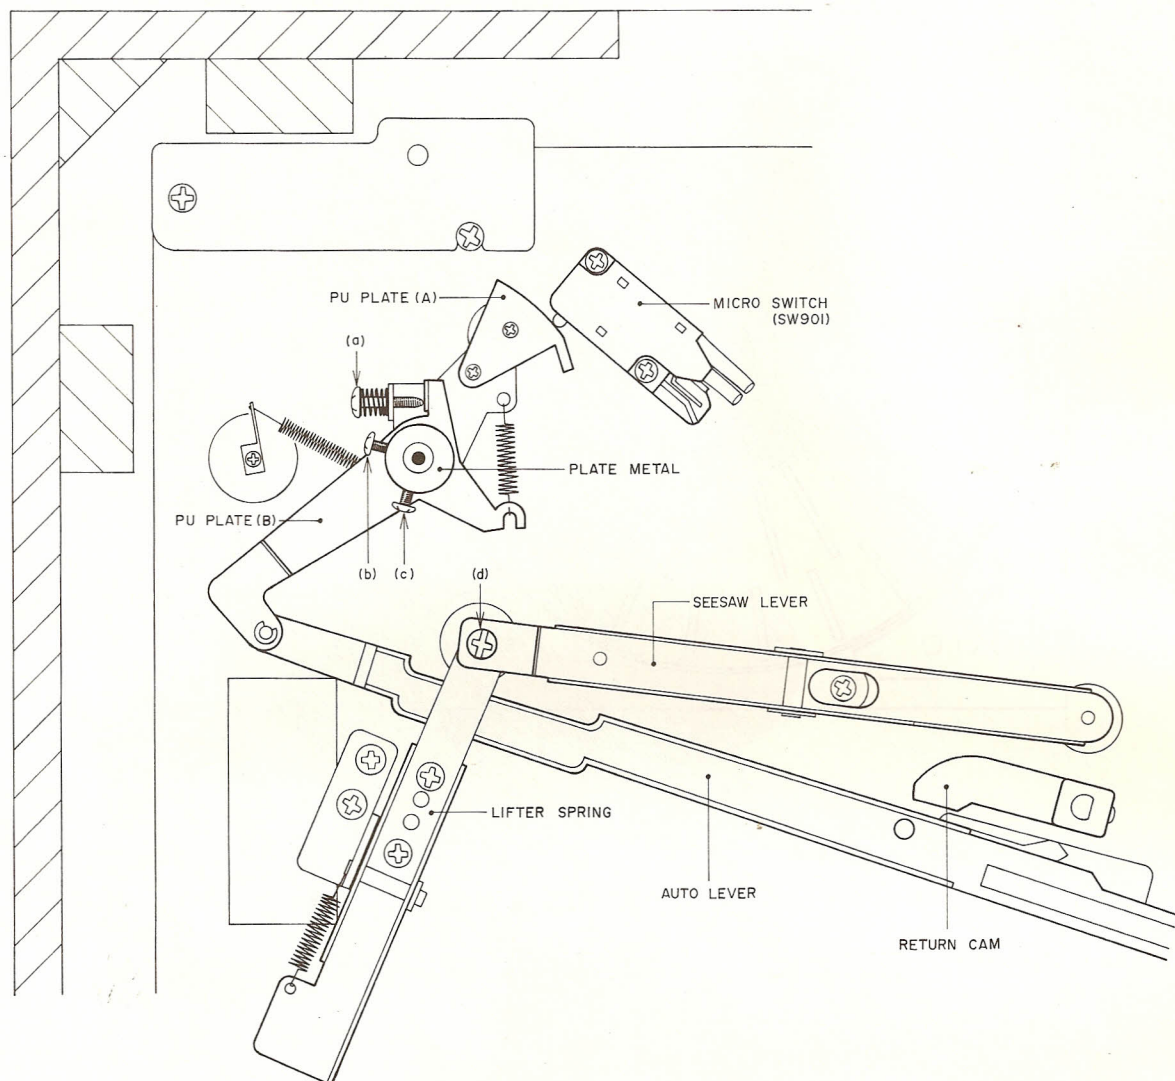
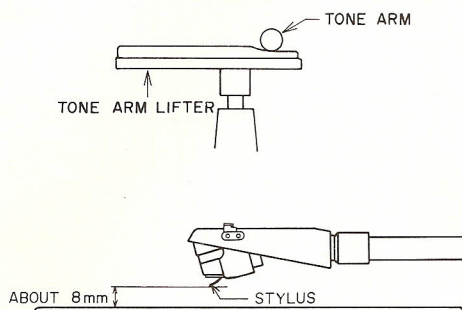
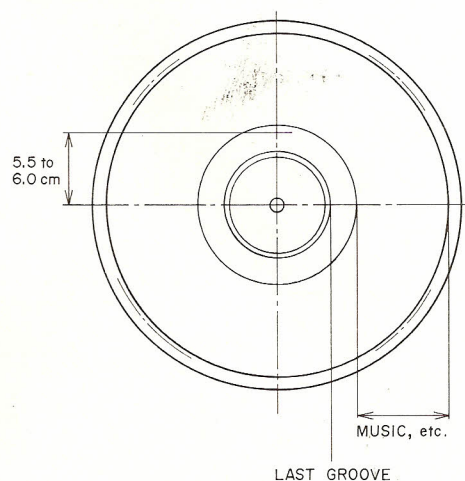

Fig. 12
Fig. 14
Fig. 15
4. PU PLATE ADJUSTMENT (Refer to Fig. 12)
(Refer to Fig. 12 and Fig. 14)
- 1) Adjust the screw (d) (see Fig. 12) until the tone arm fits to the tone arm lifter as shown in Fig. 14.
ADJUSTMENT (Refer to Fig. 12 and Fig. 15)
- 1) Adjust the screw (d) (see Fig. 12) until the tone arm returns automatically at a desired point.
NOTE: The automatic return range is around 5.5 to 6.0 cm from the center of a 30 cm disk (see Fig. 15).